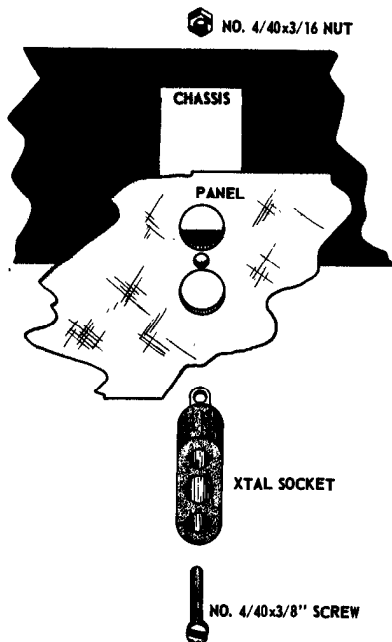

Figure 6.
- 46. Mount the XTAL-VFO socket X-1 from the front of the panel as per Fig. 6. Use a 4-40x3/8" screw and a 4-40x1/2" hex nut. Tighten securely.